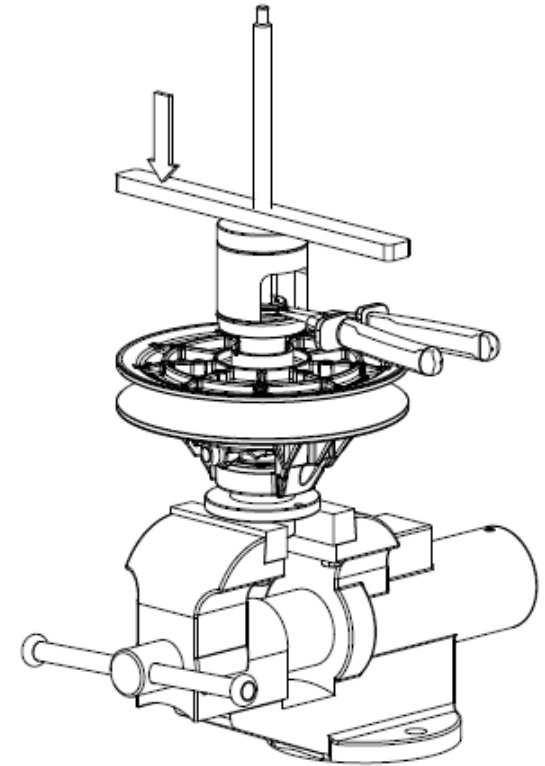
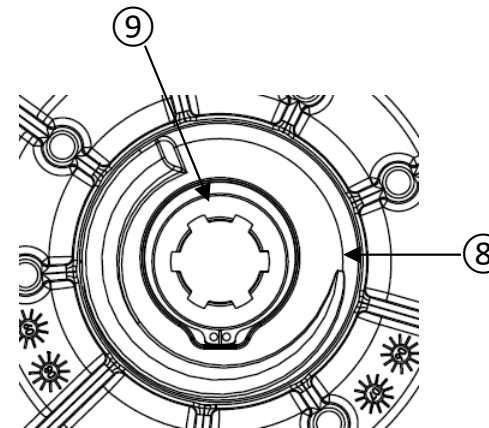

Figure 33
Figure 34
- Install the pulley on the disassembly tool as shown in figure 33.
- Insert the spring ⑦ in the sliding sheave ③.
- Put the spring seat ⑧ on the spring ⑦ and turn it clockwise until it comes to a stop in rotation; maintain the spring ⑦ by hand during the operation.
- Put the retaining ring ⑨ on the spring seat ⑧.
- Make sure that the retaining ring ⑨ is in the notch made for that purpose (see figure 34).
- With the compression tool, lower the spring ⑦ and spring seat ⑧ until they clear the retaining ring groove in the shaft.
- Install the retaining ring ⑨.